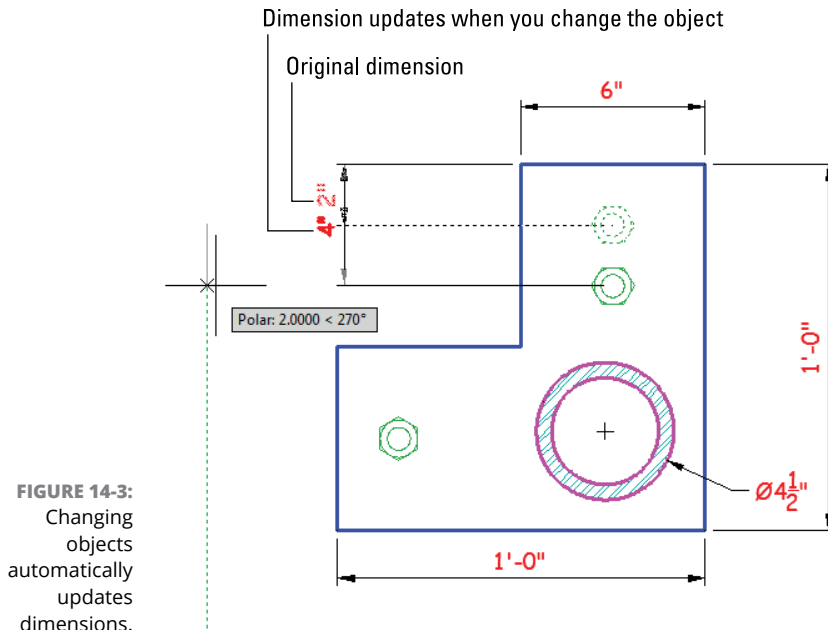

FIGURE 14-3:
- » **The dimension is connected to the points on the object that you specified when you drew the dimension.** If you change the size of the object (for example, stretch a line), the dimension updates appropriately, as shown in Figure 14-3. The lines and arrows move, and the text changes to reflect the line's new size.